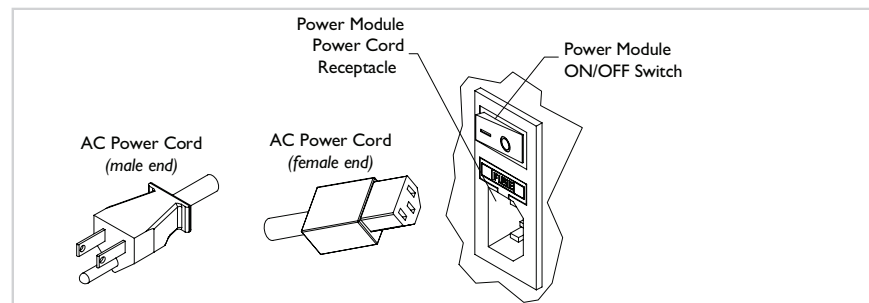

Figure 7: AC Power Cord Ends
- Make sure that the Power Module ON/OFF switch is in the OFF position. See Figure 7.
- Plug the female end of the AC power cord into the AC power receptacle on the Power Module. See Figure 7.
- Turn the power ON/OFF switch to the ON position. See Figure 7.